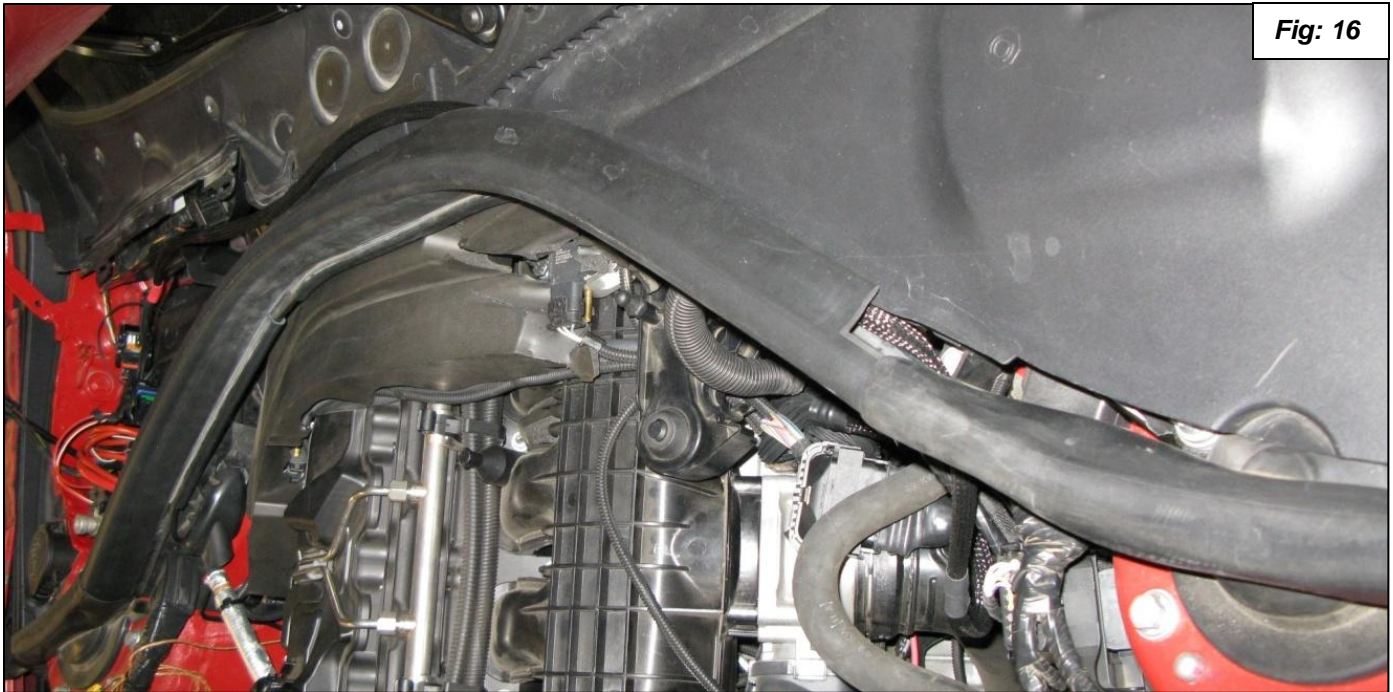

Fig: 16
15. Pull the DPT Harness around and run it under the cowl seal as shown in figure 16. Fix the rubber seal back over the cowl seal.